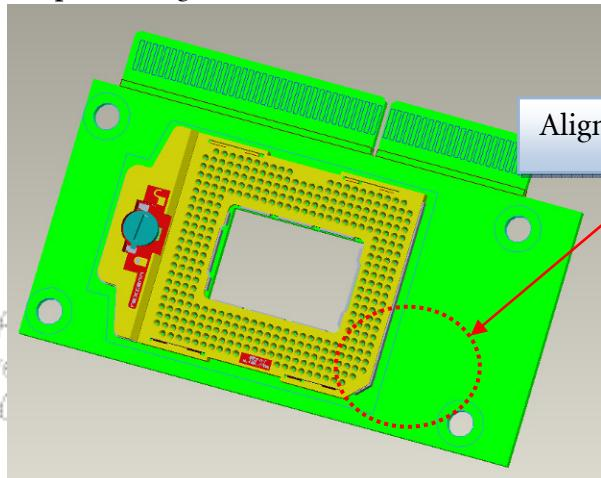

Fig. 4-1
4.1. Judge Chip B/D and DMD alignment keying first (Fig. 4-1, 4-2).